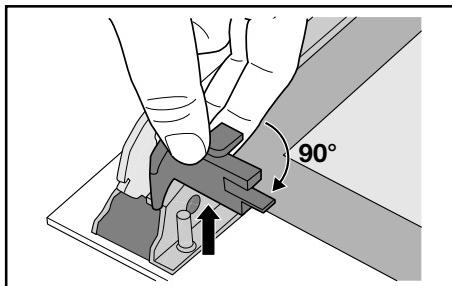

Fig. 14
- 8)** turn the 2 fasteners 90° and extract them from their seats (Fig. 14);